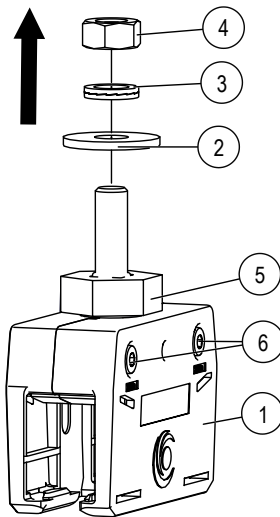

Fig. 10: Loosen upper screw connection of hanger clamp
- Loosen the upper screw connection of the hanger clamp (Pos. 1), consisting of washer (Pos. 2), wedge lock washer (Pos. 3) and hexagon nut M8 (Pos. 4) with an open-end wrench SW 13 (see Fig. 10).